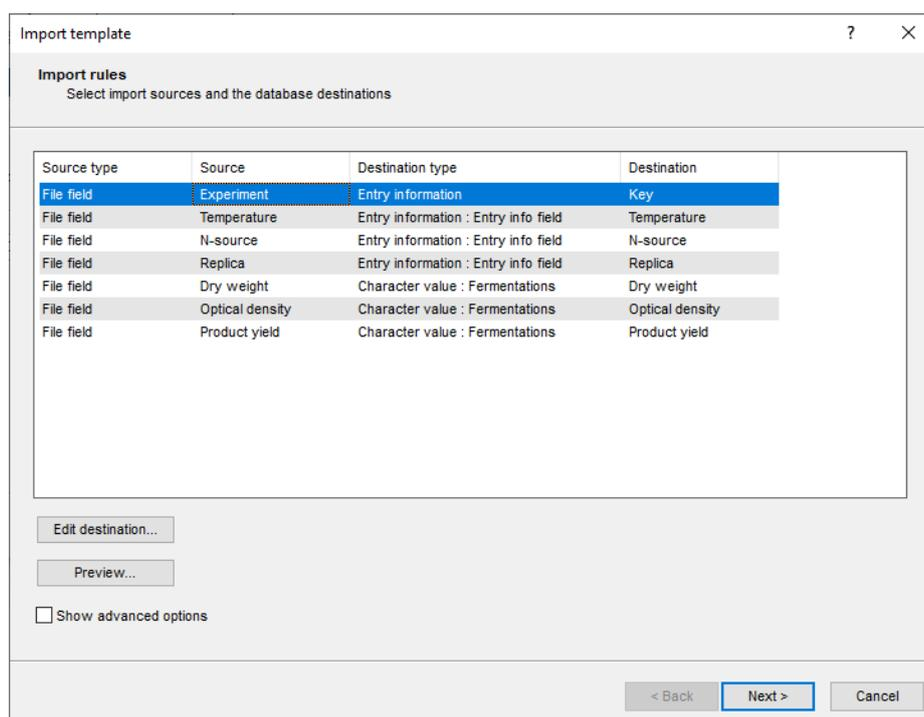

**Figure 2:** Link to character type experiment.
16. In the *Edit data destination* dialog box, highlight **Fermentations** (located under **Character value**) and press **<OK>** (see Figure 2).